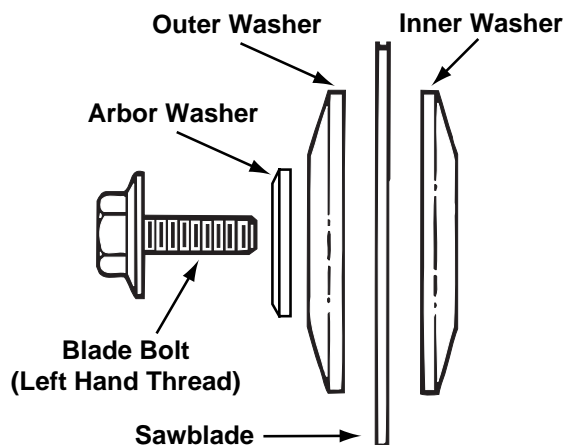

Figure 2. Blade Hardware
6. Remove the blade bolt, arbor washer, outer washer and the blade. Inner washer does not need to be removed (Figure 2).